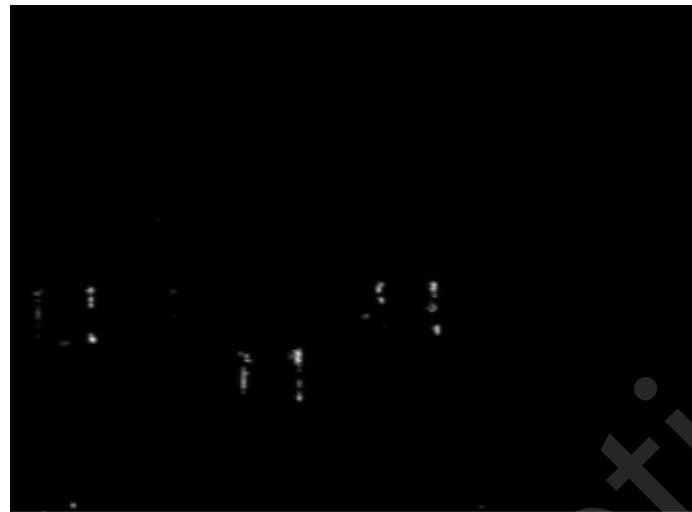

Figure 3.18-6 Figure 98: UV_delta1_offset tuned
11. Simply increase UV_delta1_offset until only the very edges of some of the patches are shown in the ColorChecker, as seen in Figure 3.18-6.